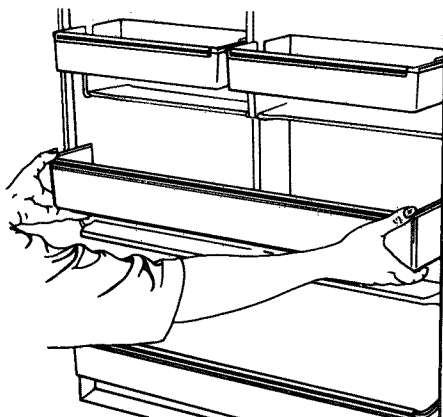

Figure 20
- d. Then pull out to remove. See Figure 20.